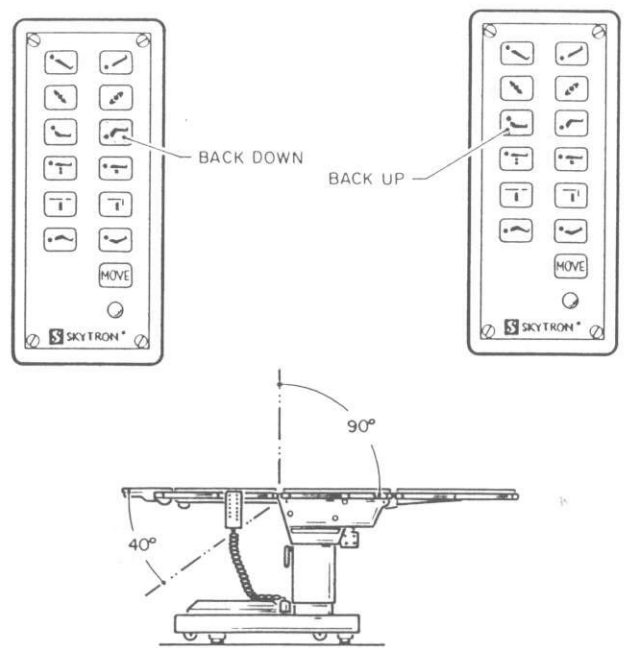
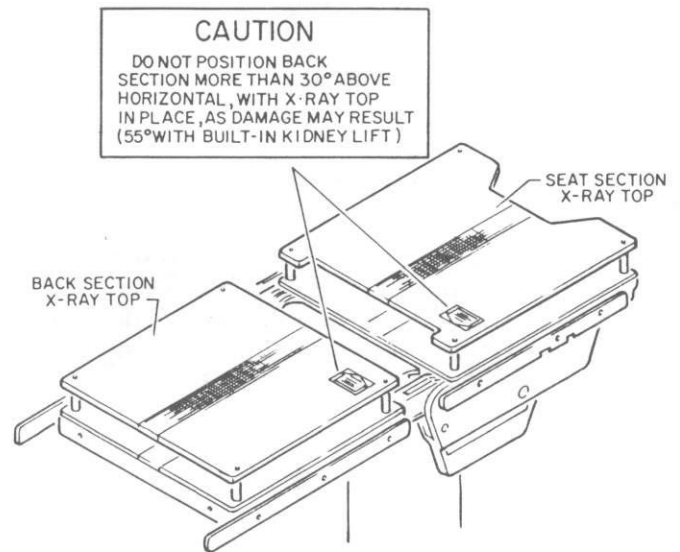

Figure 2-7. Back Section Positioning
Figure 2-8. Optional Radiographic Top
d. Back Section. To raise the back section, push the BACK-UP button (figure 2-7.), the back section will raise up to 90° above horizontal. See optional radiographic top caution, figure 2-8. Make sure kidney lift, if applicable, is down before raising back section. See figure 2-20. To lower back section, push the BACK-DOWN button, the back section will go down to 40° below horizontal.